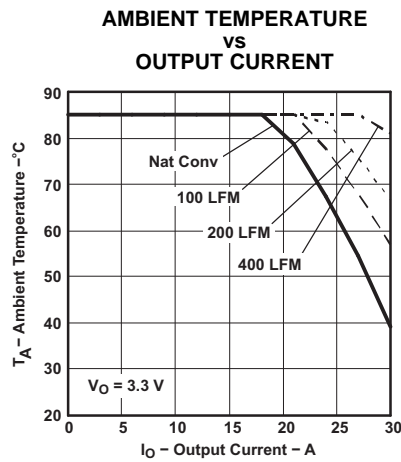
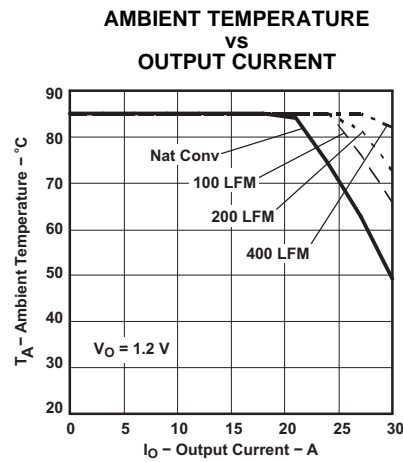

Figure 9.
Figure 10.
- (2) The temperature derating curves represent the conditions at which internal components are at or below the manufacturer's maximum operating temperatures. Derating limits apply to modules soldered directly to a 100 mm × 100 mm double-sided PCB with 2 oz. copper. Applies to Figure 9 and Figure 10.